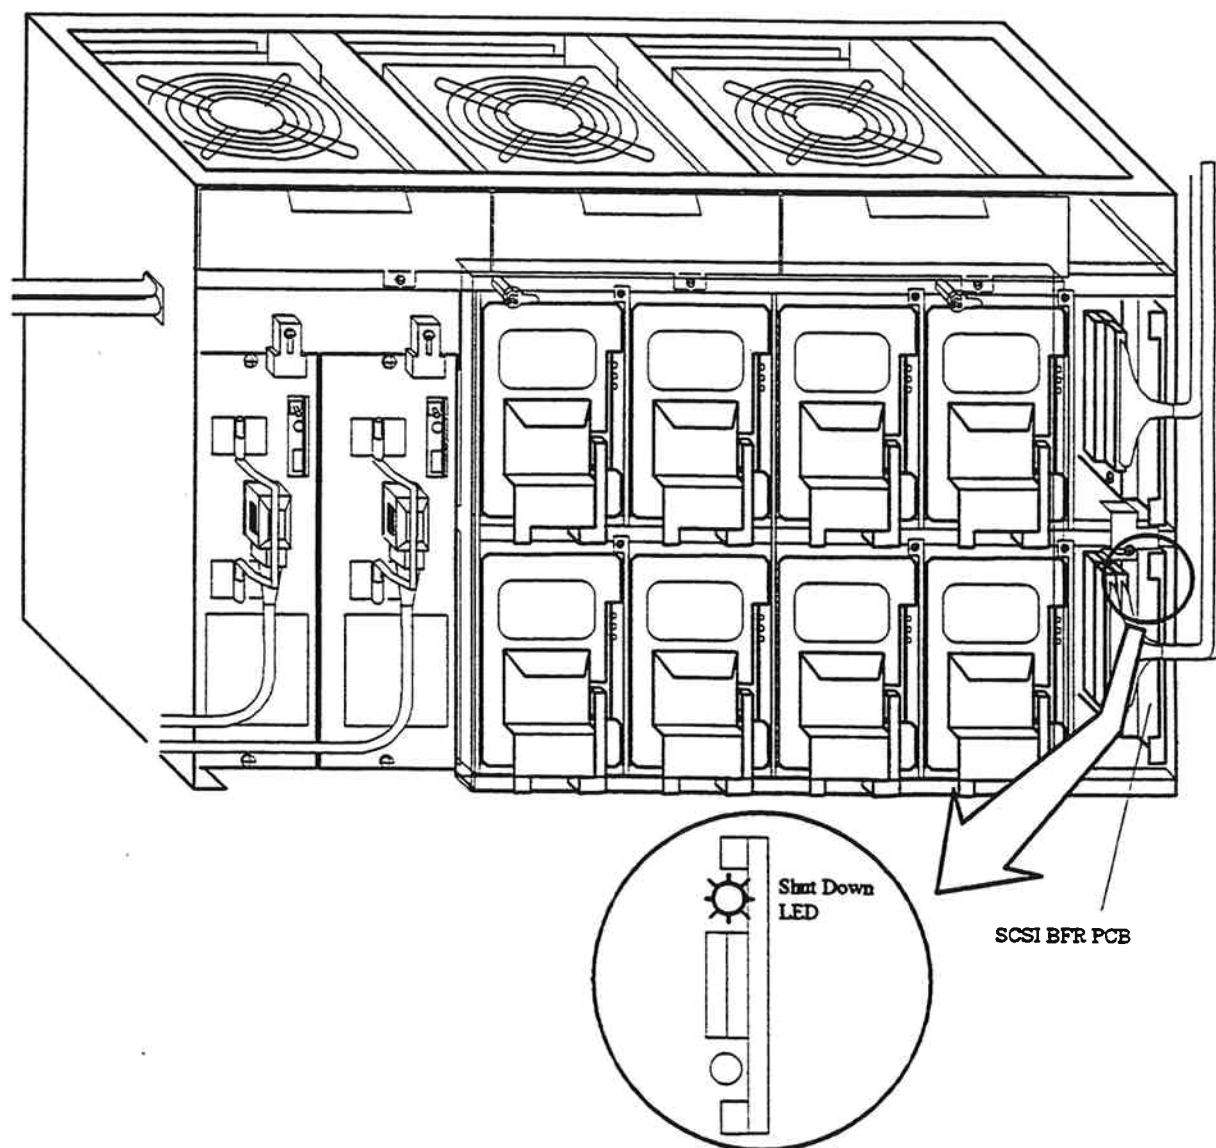

Fig. 3.4.3.2.6-4 Confirmation of the Shut Down LED Light
5. Disconnect the SCSI interface cables from the SCSI BFR PCBs in the second DKU chassis referring to figures 3.4.3.2.6-5 and 3.4.3.2.6-6.